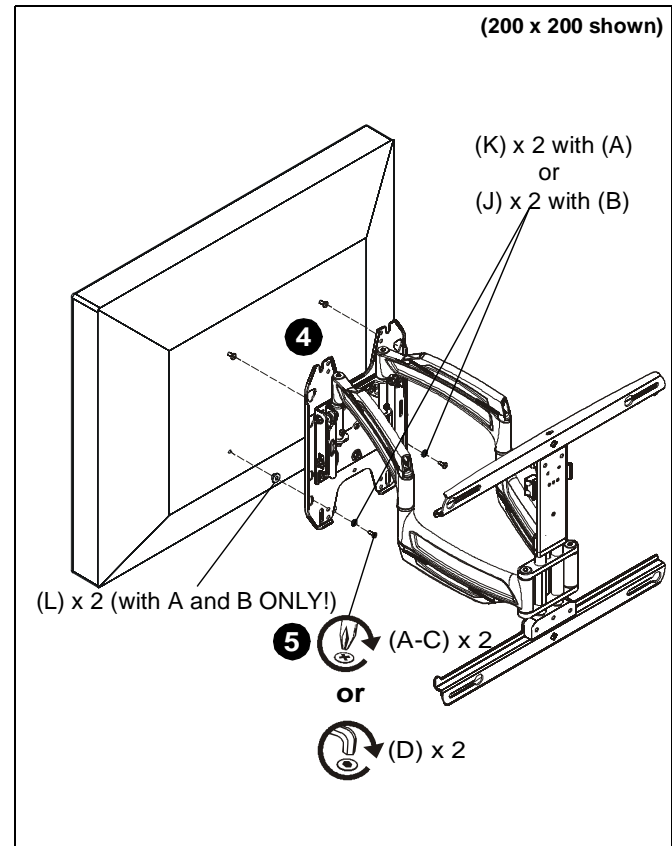

Figure 25
4. Hang display by two screws onto faceplate through either inner or outer teardrop mounting holes. (200x200 mounting pattern shown) (See Figure 25)
5. Install two selected screws (A-D) through selected washer hardware (H,J and K, if necessary), lower holes on faceplate and into lower two holes on display. (See Figure 25)